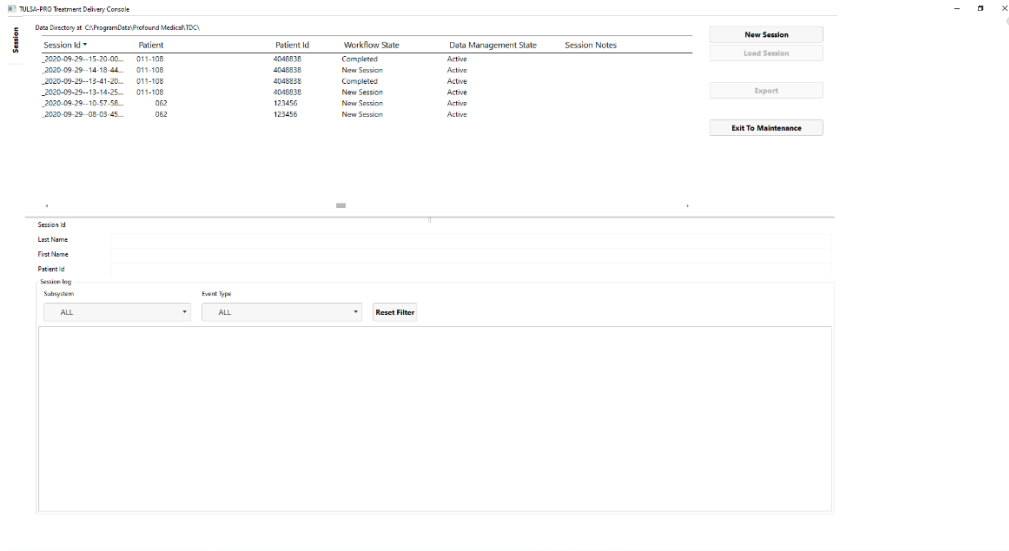

Figure 4: Session Data Management workspace of the TDC Main Menu
1. Launch the TDC software from the desktop. The *Session Data Management* workspace will appear. Click **New Session** (Figure 4).